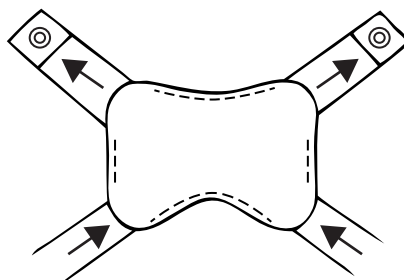

Figure 24. Nape Pad and Straps
1. Referring to **Figure 24**, install the replacement nape pad as follows: